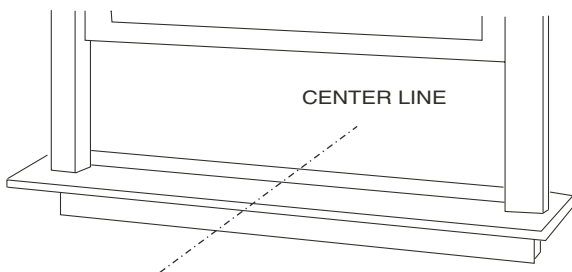
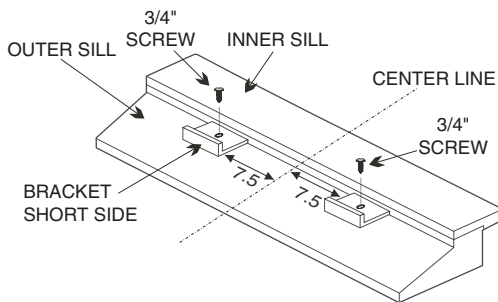

FIGURE 5 — DETERMINE CENTER OF SILL
FIGURE 6 — L-BRACKET INSTALLATION
7. Measure the width of the inside sill of the window and mark the center of the sill. See Fig. 5. Measure 7 1/2-in. from the center on both sides and mark on window sill. Mount the two L-brackets on the window sill with a 3/4-in. screw (provided). See Fig. 6. The L-brackets will hold the bottom channel of the air conditioner cabinet in the correct position when installed. Check that brackets are in the correct position before installing.